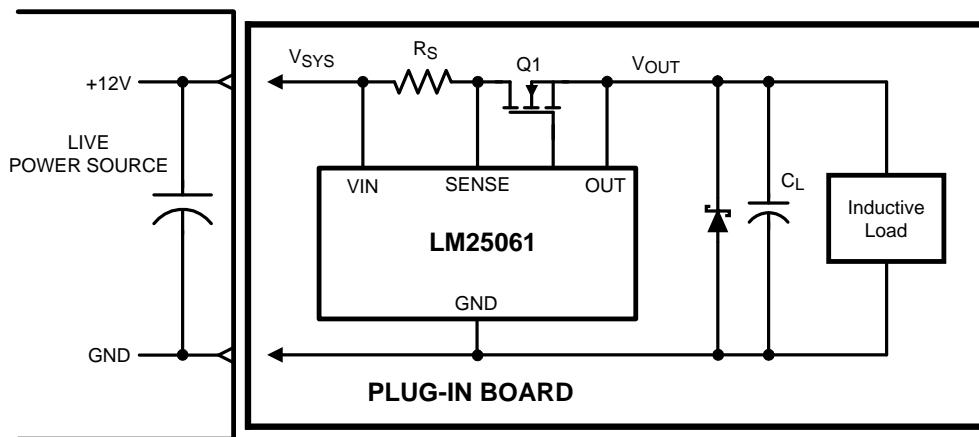

Figure 37. Output Diode Required for Inductive Loads
2. If the load powered by the LM25061 hot swap circuit has inductive characteristics, a Schottky diode is required across the LM25061’s output, along with some load capacitance. The capacitance and the diode are necessary to limit the negative excursion at the OUT pin when the load current is shut off. If the OUT pin transitions more than 0.3V negative the LM25061 will internally reset, interfering with the latch-off feature of the LM25061-1, or the restart cycle of the LM25061-2. See Figure 37.